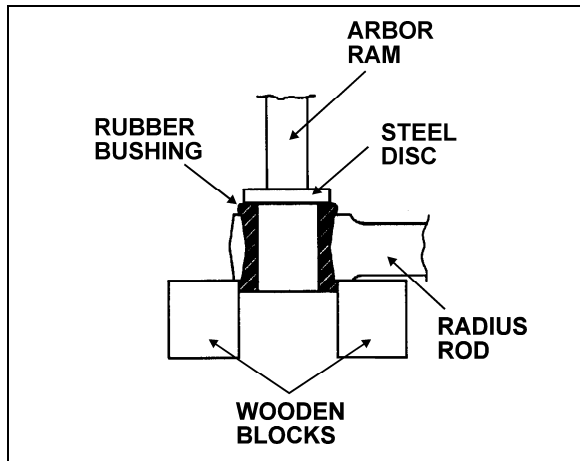

FIGURE 7: RADIUS ROD BUSHING REMOVAL 16011
1. Safely support the radius rod as shown in figure 7.
2. Place a flat steel disc, slightly smaller than the outside diameter of the bushing (Fig. 7).